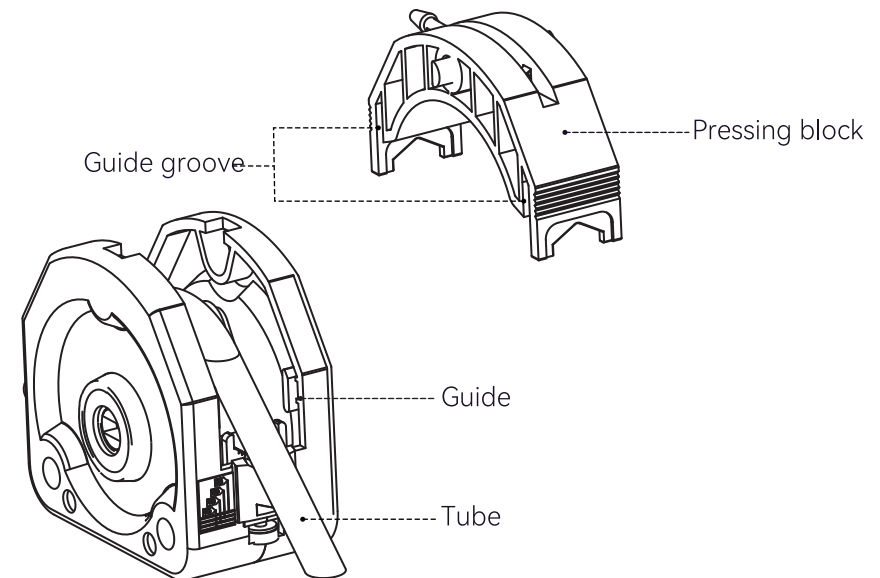

Figure 3 Installation of Tube
- Select a tube that is suitable for the specified wall thickness of the pump head, place the tube on the roller and the V-shaped groove of the tube clamp on the left and right sides, straighten the internal tube of the pump head, and tighten both ends of the tube with both hands to make it naturally extend without distortion or deviation, as shown in Figure 3.